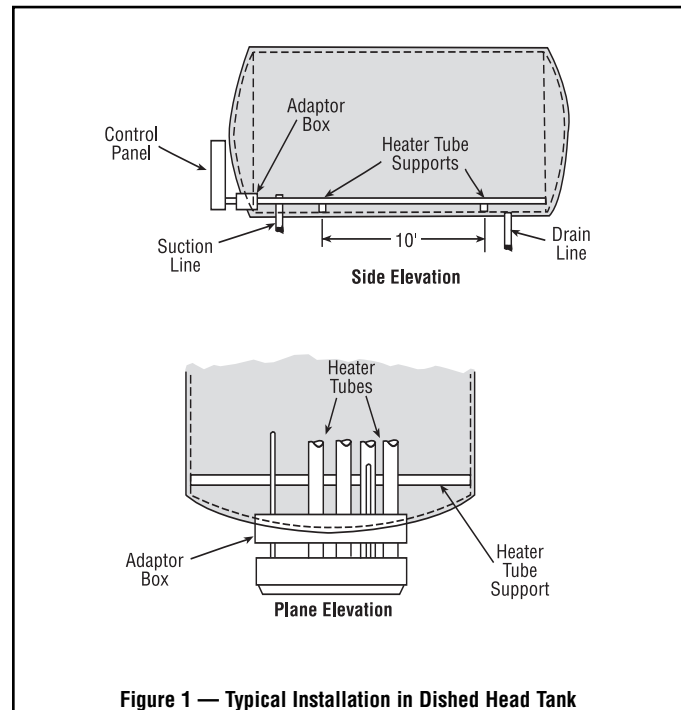

Figure 1 — Typical Installation in Dished Head Tank
3. Install heater tube supports on 10 foot centers before installing Immersion Heater assembly (refer to Figure 1). Do not anchor the heater tubes to the supports as the tubes must be allowed to expand.
4. Insert heater tubes and position adapter box as per Figure 1.